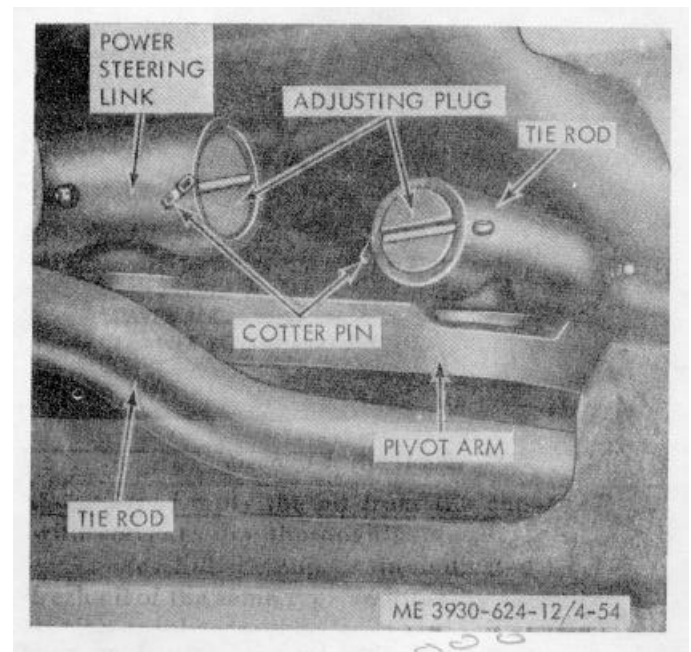

Figure 4-54. Tie rod removal (pivot arm end).
(1) Remove the cotter pin and loosen the adjusting plug in the end of the tie rod. Remove the tie rod from the pivot arm. (fig. 4-54.)
(2) Disconnect ball socket connecting the power steering cylinder to the pivot arm, by removing the cotter pin and loosening the adjusting plug (fig. 4-54).
(3) To disconnect the front end of cylinder from the frame, remove the cotter pin securing shaft pin in bracket.